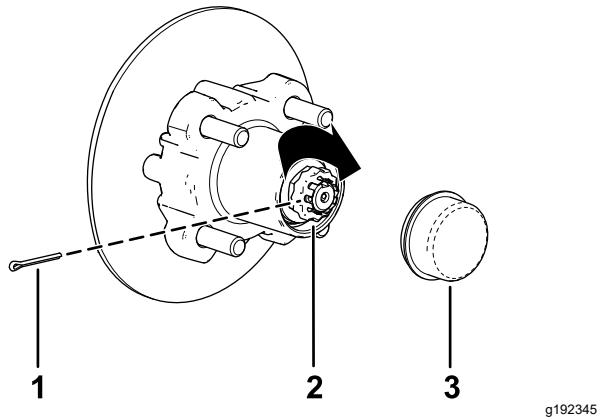

Figure 37
8. Install the retainer over the nut and check the alignment of the slot in the retainer and the hole in the spindle for the cotter pin (Figure 37).
9. Install the cotter pin and bend each legs around the retainer (Figure 37).
10. Install the dust cap onto the hub (Figure 37).